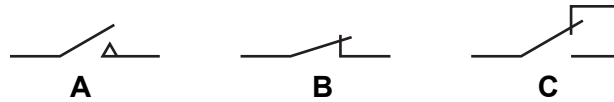

Fig. 11.1
- 11 (a) (i) Fig. 11.1 shows three switch symbols.